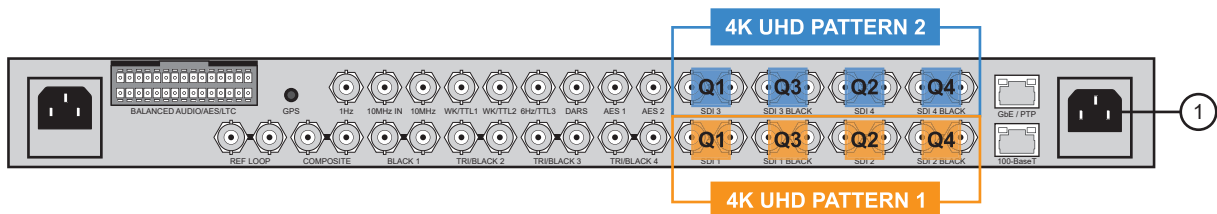

Figure 54 SRG-4500 Rear Panel — 4K UHD Connections
Figure 54 shows the location of each Quadrant (Q) BNC for the two possible 4K UHD outputs.